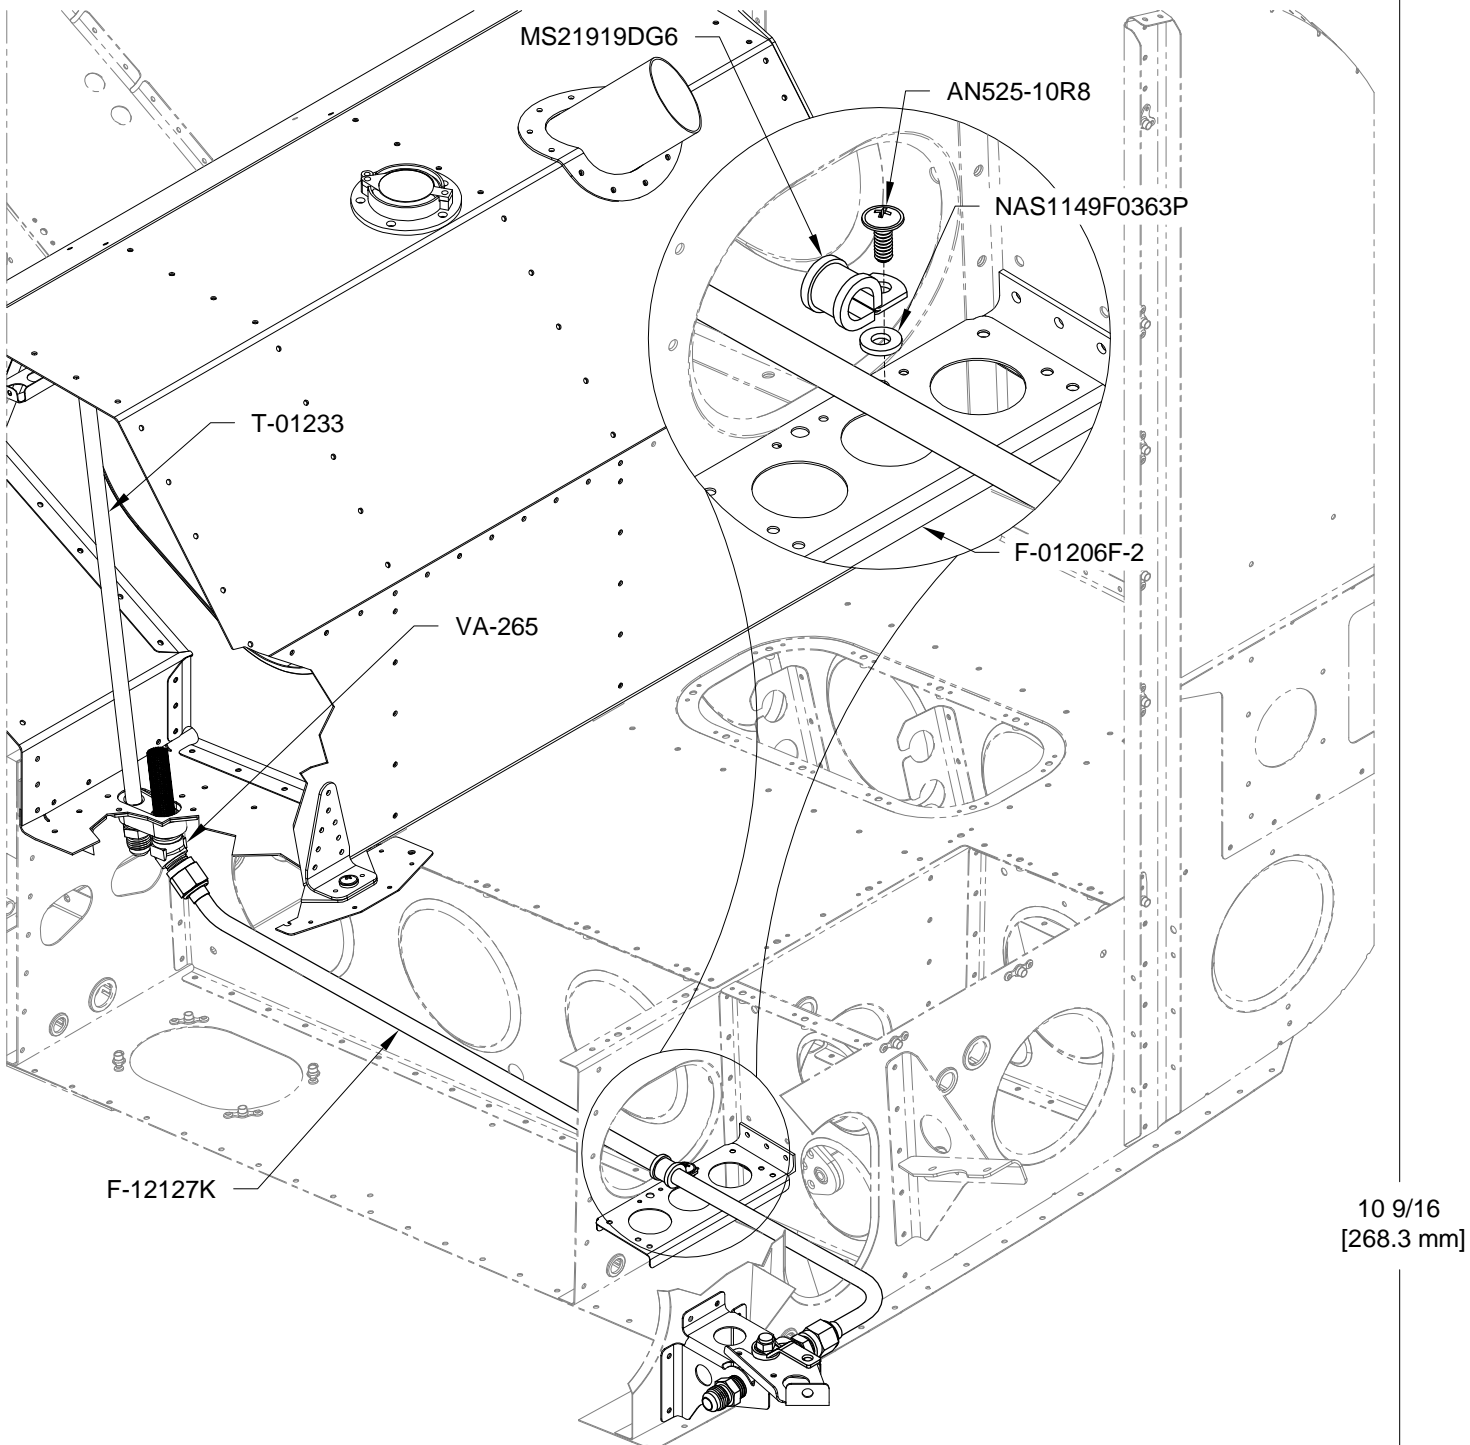

FIGURE 3: F-12127K TANK TO SHUT-OFF VALVE FUEL LINE INSTALLATION
Step 5: Install the F-12127K as shown in Figure 3. A small amount of bending/adjustment by hand is acceptable. Place the clamp around the fuel line and attach to the F-01206F-2 as shown in the detail view in Figure 3.